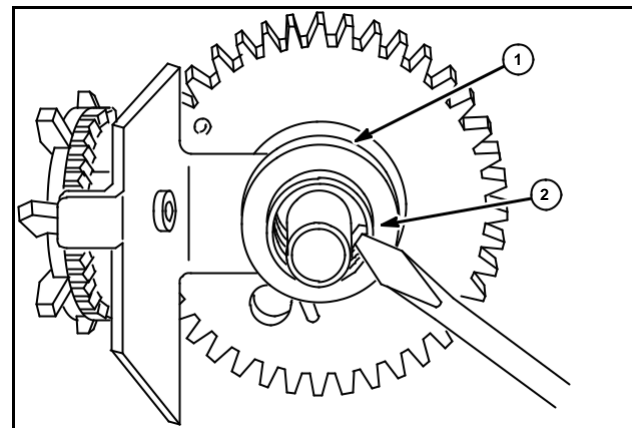

Fig. 56
3. Use thin blade screwdriver or similar tool to pry lower clutch spring tab (2) out of hole in clutch sleeve (1), Fig. 56.